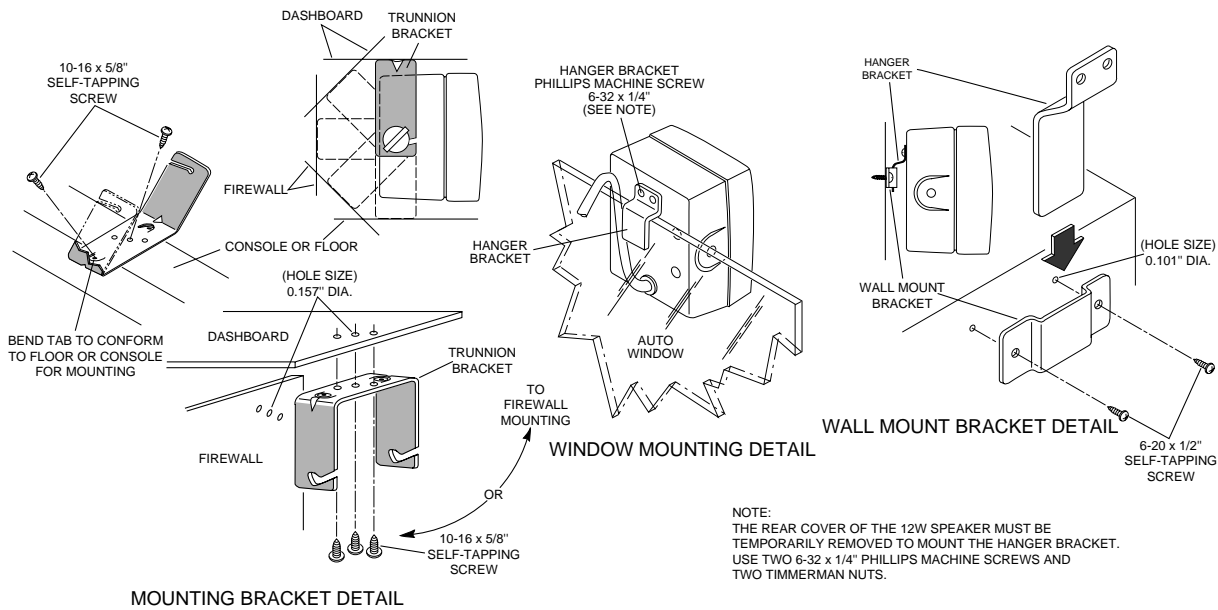

Figure 3. 12-Watt Speaker Installation Detail
- The wall-mount bracket can be used for permanent mounting if the trunnion bracket is too large to fit in the desired area. In this case, the trunnion bracket is removed, and the speaker is attached to the wall-mount bracket by the hanger bracket. Referring to Figure 3 for installation information, perform the following procedure: